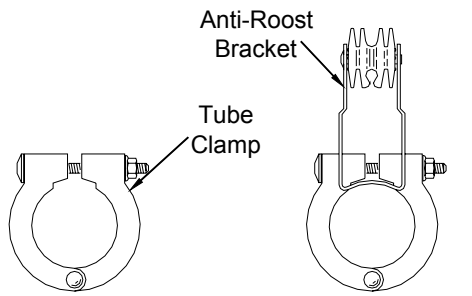
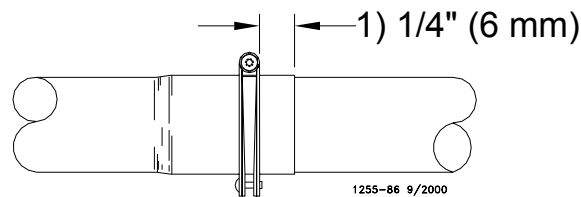

Figure 26. Tube Clamp and Anti-Roost Bracket
Figure 27. Tube Joint Connection
3. Place a tube clamp assembly or clamp/anti-roost bracket at each joint. **Figure 26** shows the standard clamp and clamp/anti-roost bracket. Make sure each tube fits as far as possible into the belled end of the next tube. the outlet holes **must point down**. Install tube clamps as shown in **Figure 27**.
- make sure clamp is located, as shown in **Figure 27**.